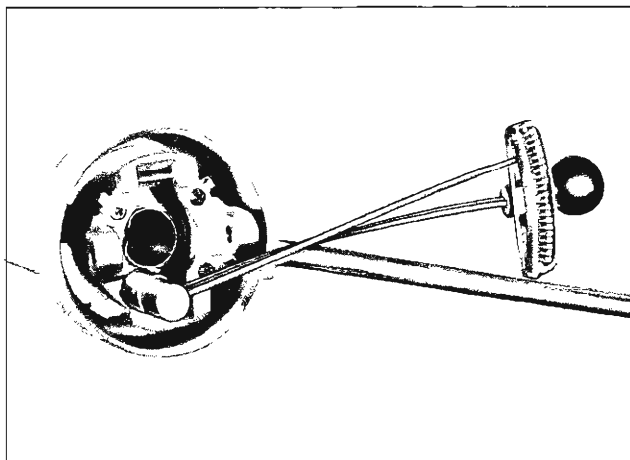

Fig. 33—Installing Actuator Support
5. Install the actuator support on the upper end of the mast jacket. Torque attaching screws, larger (left hand) screws first, to 30-40 in. lbs. (fig. 33).